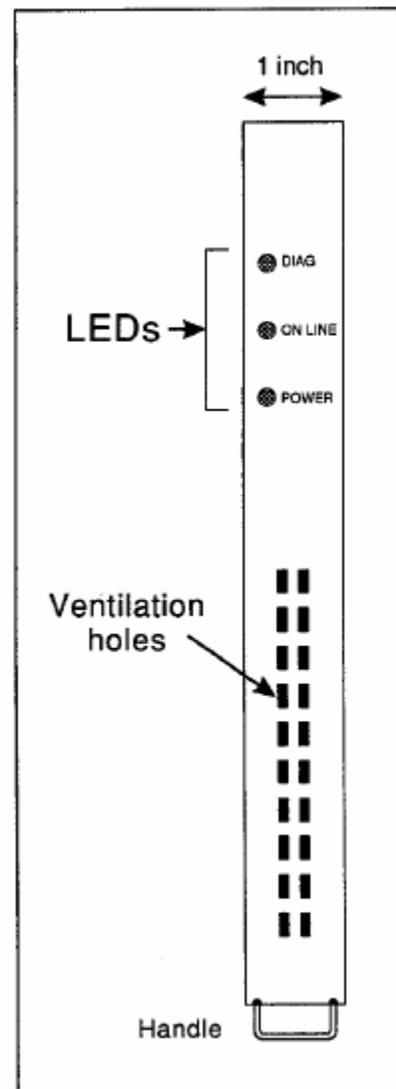

Figure E-1. Low-profile modem – front panel
The modified front panel of the low-profile rack-mount modem (Figure E-1) allows 16 low-profile modems to be housed in a single high-density rack enclosure. (Stand-alone versions of the Alliance Series modems can be used in a rack enclosure, with the outer shell removed, but the low-profile design allows more modems to be used in a single rack.)
- The low-profile front panel is half as high (1 inch) as the front panel of its stand-alone counterpart. (When the modem is in the vertical rack-mount position, the front panel width is 1 inch, as shown in Figure E-1).